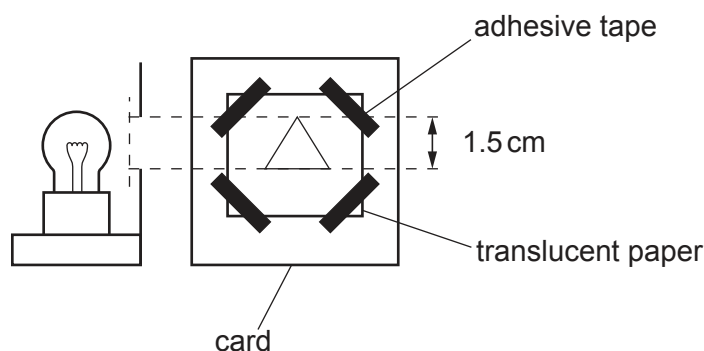

Fig. 3.1
- (iii) Illuminated object consisting of rigid card with a triangular hole of height 1.5 cm (see Fig. 3.1). The hole is to be covered with thin translucent paper (e.g. tracing paper) secured with adhesive tape. See note 2.